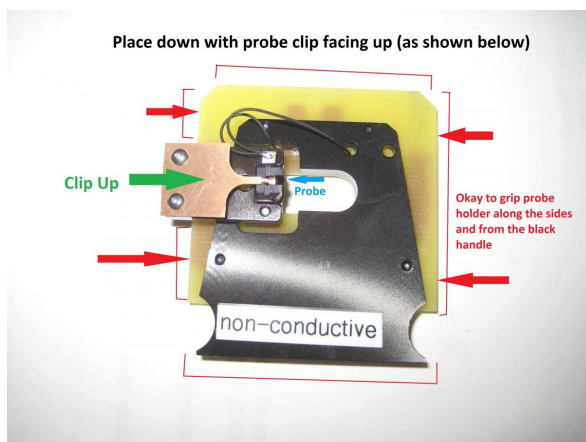
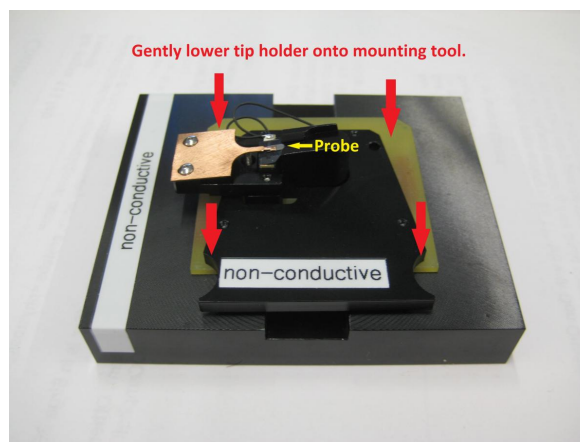

Figure 20: Probe holder
Figure 21: Probe holder on exchange tool
3. Flip the holder over so that the **copper probe clip is face up**. It should have a label saying 'non-conductive' on it; if not check in with a GSI (see Figure 20). There should be a exchange tool under the stereoscope to the left of the AFM. The probe holder should slot nicely on top of this (see Figure 21) with the post underneath the copper clip, and the oval structures on each matching up. Do the next step under the stereoscope (turn on, turn the light up, and focus on the probe).